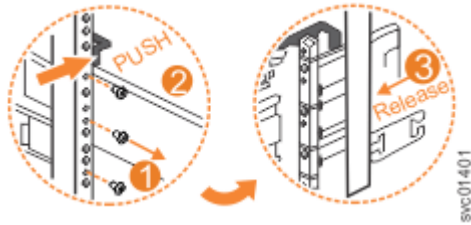

Figure 87. Remove the rail assembly from the rear frame bracket
3. Remove the two screws that attach the inner rail section to the rear bracket, as shown in Figure 87 on page 147.
4. Pull the rail forward away from the rear bracket, as shown in Figure 87 on page 147.